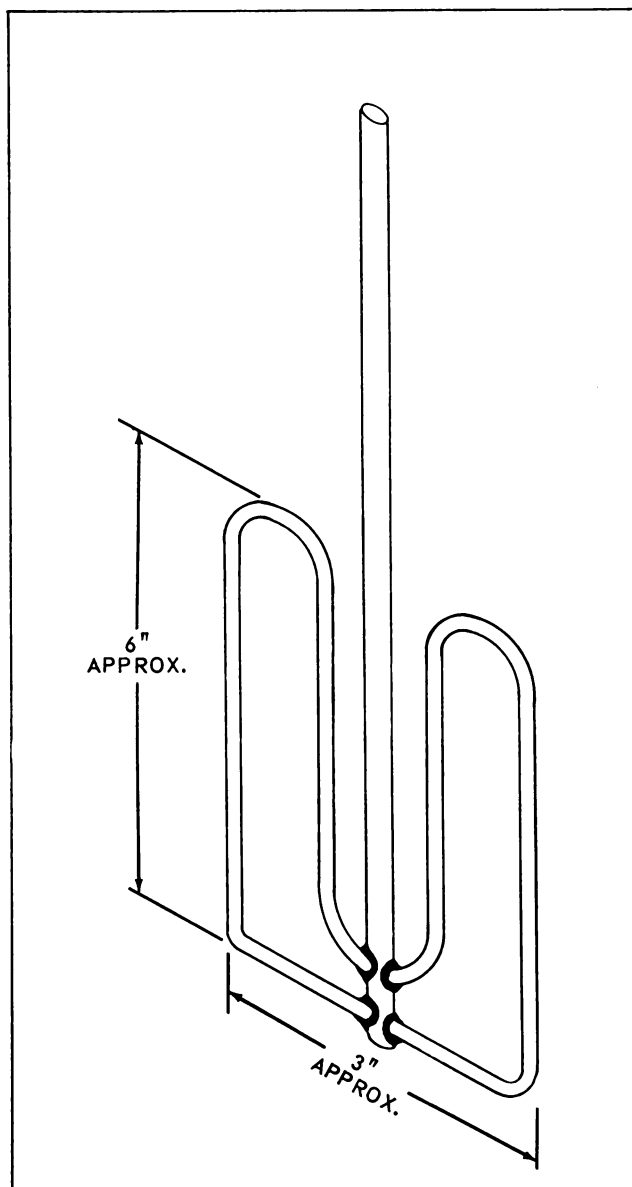

Figure 3-69. Mixing Paddle for Potting Compound
c. Clamp base material container securely to a drill press geared to 50 RPM minimum to 90 RPM maximum. Insert a mixing paddle fashioned from a drill rod and wire. (See Figure 3-69).